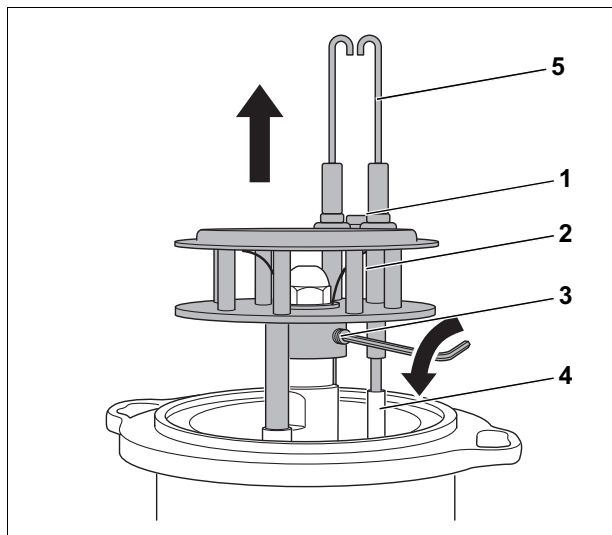

Fig. 23 Disassembling mixing system
- Loosen and remove the screw (Fig. 23, **Item 1**) between the ignition electrodes.
- Disconnect the ignition leads (Fig. 23, **Item 4**).
- Remove the ignition electrodes (Fig. 23, **Item 5**).
- Undo the set screw (Fig. 23, **Item 3**) and pull the mixing system (Fig. 23, **Item 2**) upward to remove.